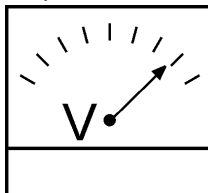

Figure 45. Voltmeter Meter
7. The generator's AC-voltmeter (Figure 45) will display the generator's output in **VOLTS**.